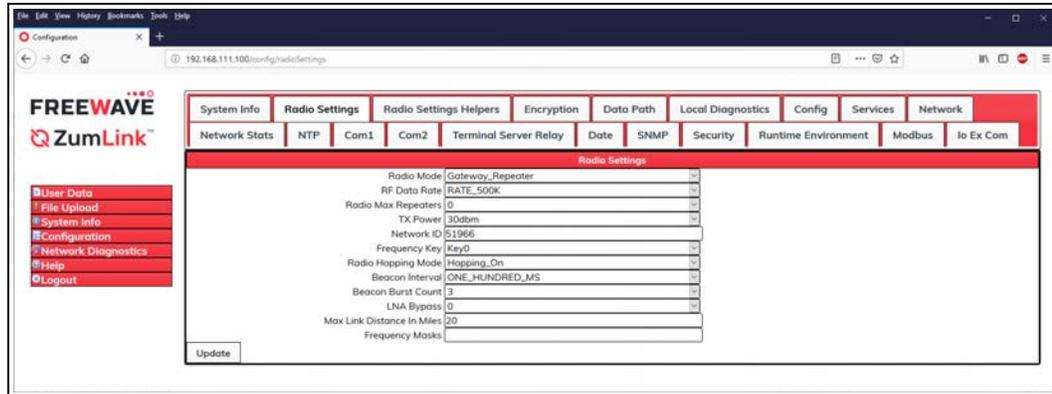

Figure 155: Radio Settings window - Gateway_Repeater
7. Click the **Radio Mode** list box arrow and select the device type to designate the Z9-P or Z9-PE as a **Gateway_Repeater**. Figure 155